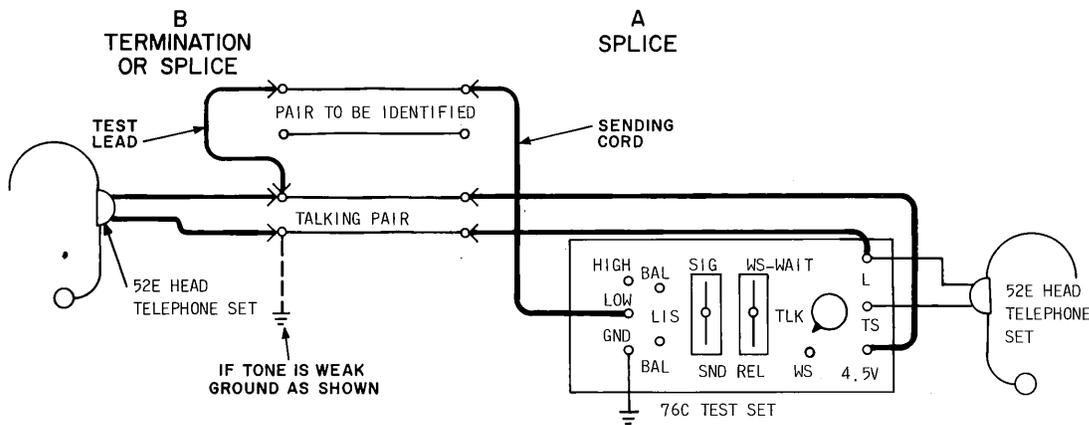

Fig. 5—Identifying Nonworking Conductors
3.03 Using Fig. 5, perform the following STEP, ACTION, VERIFICATION procedures to identify pairs in nonworking cables:
3.04 If the cable is very short, the tone may be too weak to identify the conductors. In this event, the tone can be increased by placing a ground on the talking pair at end B on the side opposite the one to which the test lead is connected by the dotted line in Fig. 5.